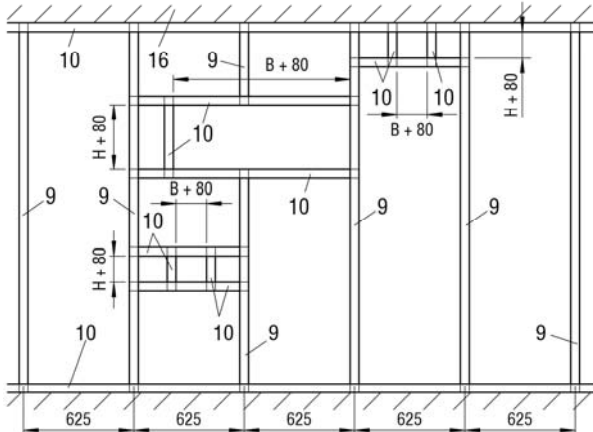

Figure 72: Metal post with required exchange parts for dry installation (F30/F60)
- Mount the metal posts and the wall in accordance with the specifications of the wall manufacturer and the required exchange parts as shown on Figure 72.
- Insert the BKA-EN (pos. 1) into the wall recess (operating side - observe the installation dimension of 210 mm). Average out the circumferential annular gap evenly between the wall and the BKA-EN. Mount the BKA-EN with the help of mounting suspensions, etc.
- Insert mineral wool (pos. 11.4) into the circumferential gap 40 mm in width between the BKA-EN housing and the circumferential metal profiles (pos. 10).
- Mount the wall panellings on both sides (pos. 12) and the doublings on the non-operating side (pos. 49.4). The connection and butt joints must be filled with the jointing material of the wall (pos. 43; max. gap width 5 mm, perform jointing operation as part of assembly).